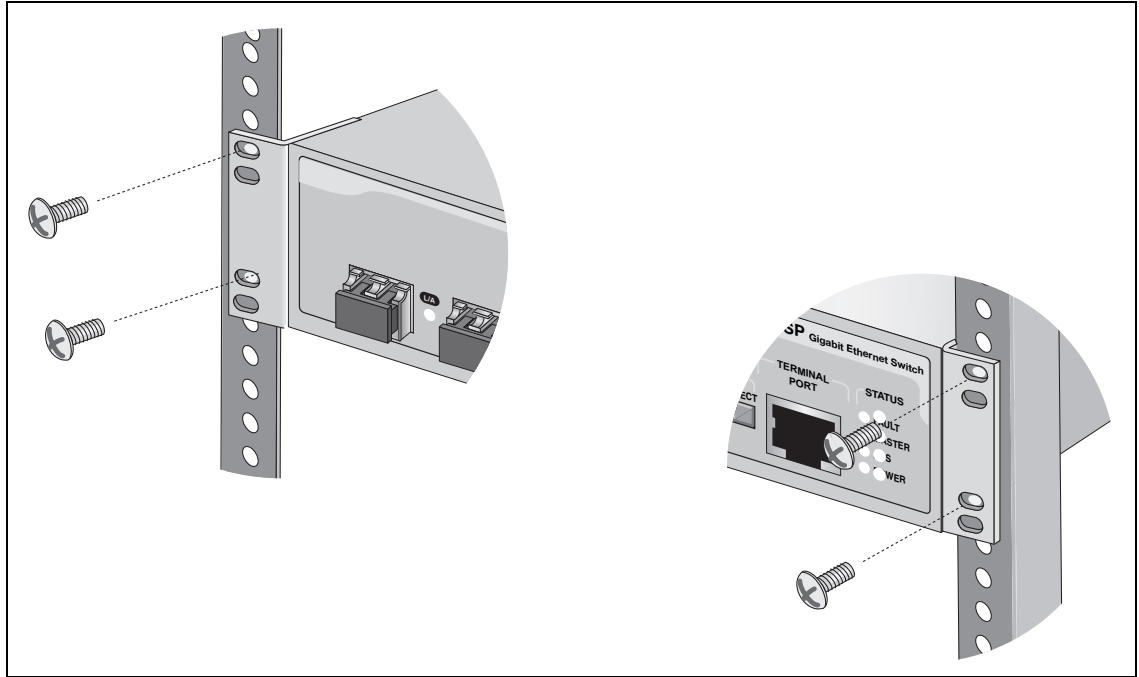

Figure 19. Mounting the Switch in a Rack
6. Mount the switch in the 19-inch rack using standard screws (not provided), as shown in Figure 19.